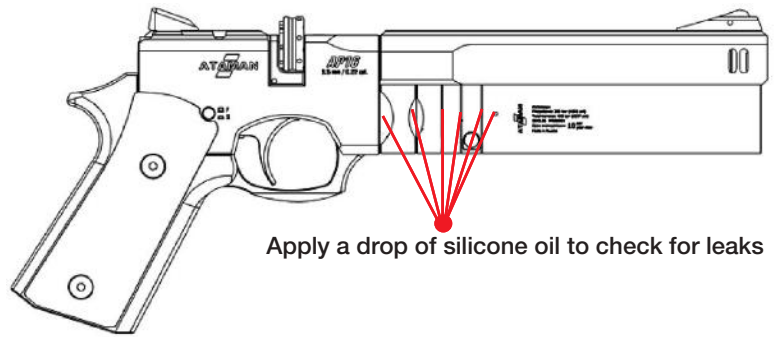

Fig. 7 – Leaking check
- Apply silicone based oil to the places shown on Fig. 7. Foam or bubbles will appear at the leaking place.